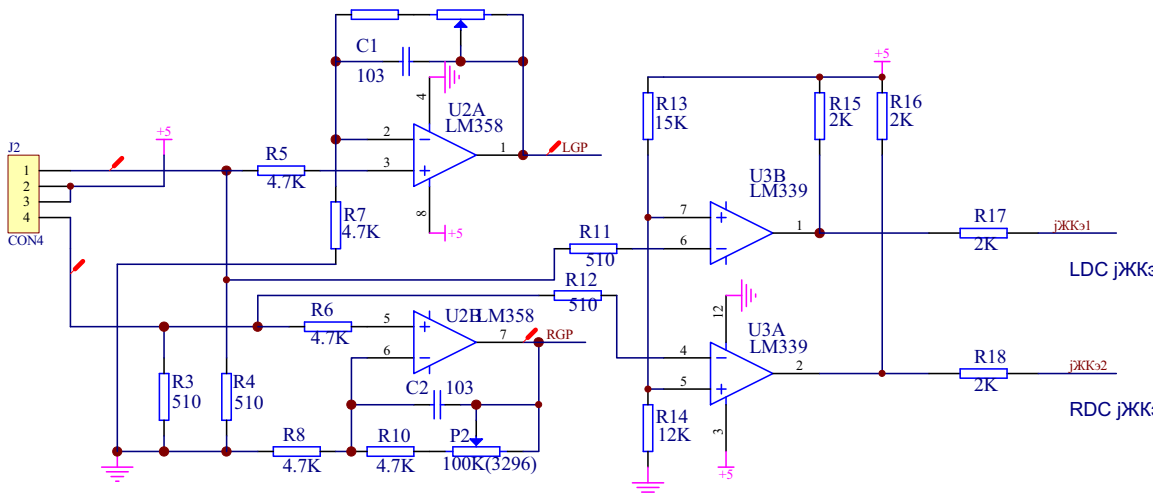

Fig.14 Left and Right Counting Sensor Circuit Diagram
(3) PRO85UM, PRO85UM/S (Refer to Fig.14)